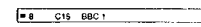

Fig. 15
- 4 Using Δ + or ∇ - select the programme position which you want to move to another and press OK. The colour of the selected position changes. (See Fig. 15)